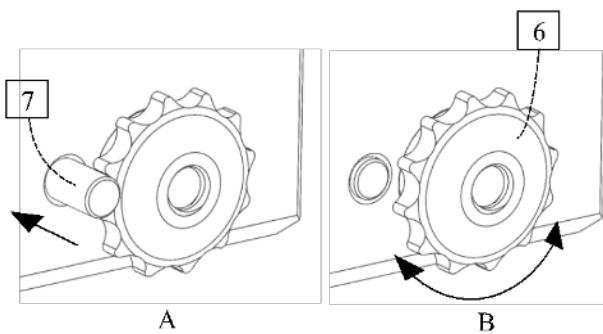

Fig.4
- Press indexing pin 7 inward (Fig. 4, View A) to release locking nut 6, then rotate it clockwise to increase locking force or anticlockwise to reduce it (Fig. 4, View B).